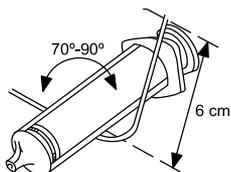

Figure 2. Curve the stylet
2. Select a stylet according to the function and to the preferred firmness. If desired, gently curve the stylet with any sterile, smooth-surfaced instrument (e.g., 10-cc or 12-cc syringe barrel) (Figure 2 Curve the stylet on page 14).